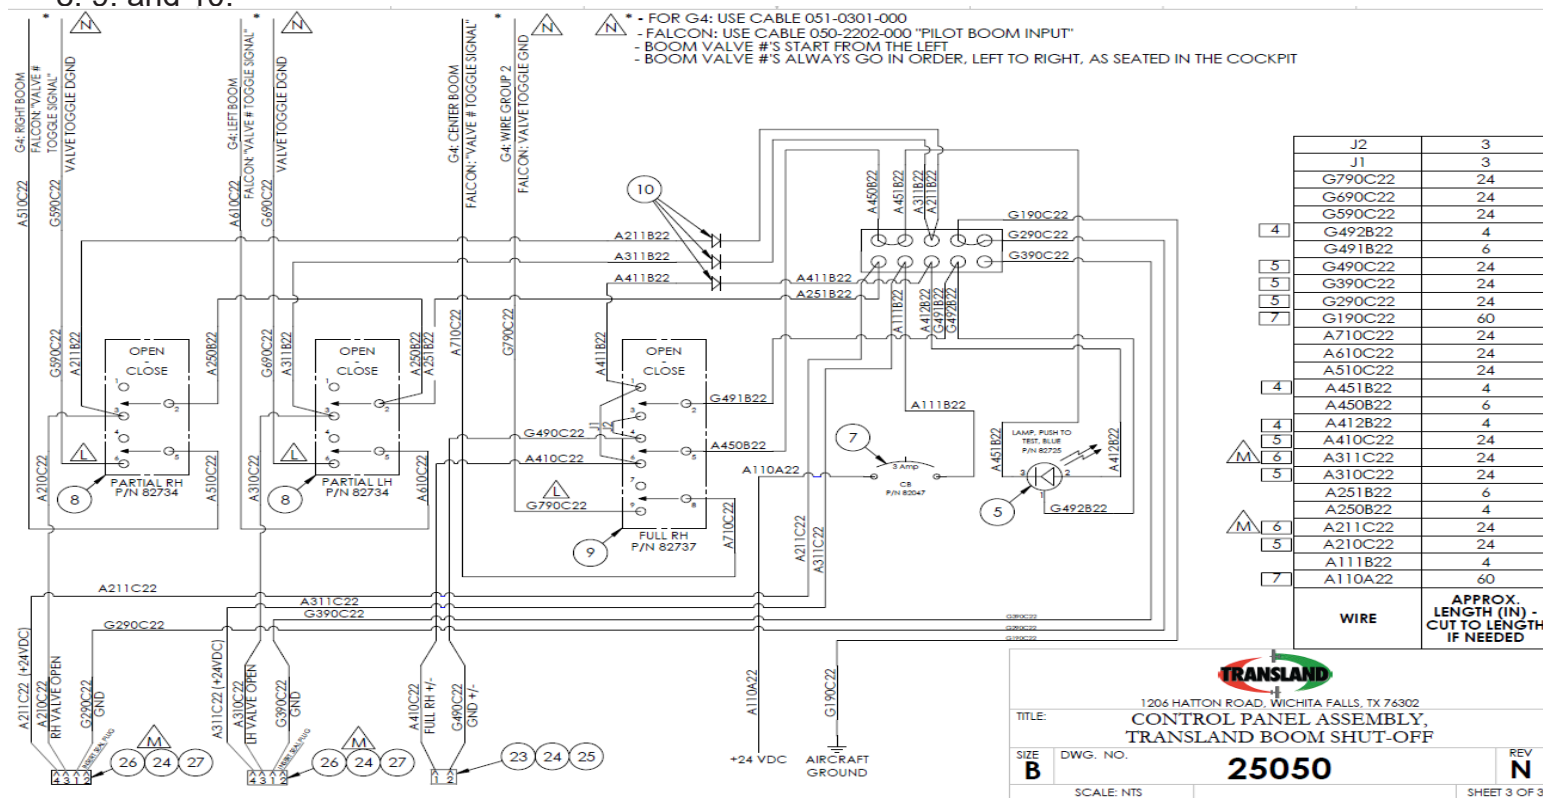

Figure 1-3: Wiring Schematic for Transland 50%/60% Boom Shut-Off Control Panel to Satloc GPS System
9. Solder or crimp the labeled leads from PN 25050 to the appropriate IO cable leads as shown on Figure 1-3.